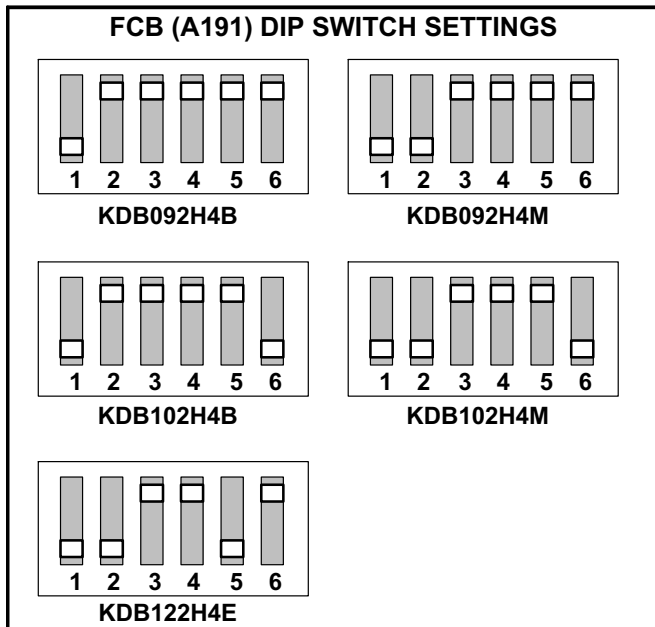

FIGURE 14
- 7- Verify the FCB (A191) fan control board DIP switch settings are correct. Use the model number on the unit nameplate and figure 14. The FCB is in the control section above the compressors.